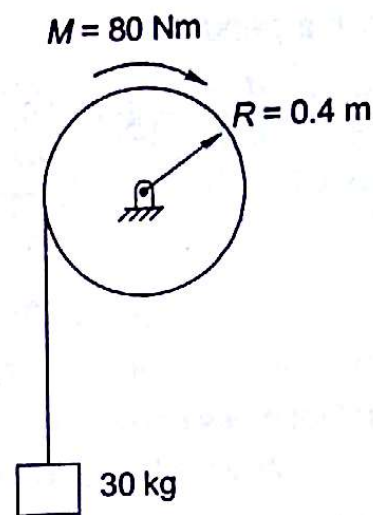

Fig. 19.19
- 19.5 Drum shown in Fig. 19.19 rotates in frictionless bearings. A mass of 30 kg attached to the string wound as shown falls through a distance of 2 m. A constant torque of $M = 80 \text{ Nm}$ is applied on drum of radius 0.4 m. What work is done on system?